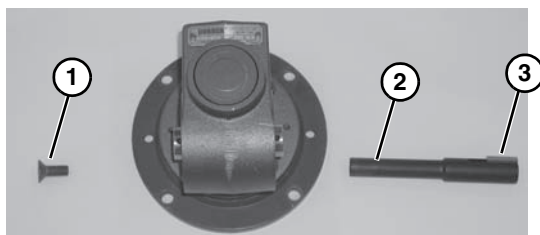

Figure 21
- Remove M10 shaft locking screw (**Figure 21, item 1**), remove gear reducer output shaft (**Figure 21, item 2**) and key (**Figure 21, item 3**).
*Output shaft (**Figure 21, item 2**) is held in Gear Reducer with a tapered press fit. Removal may require use of an arbor press.*
- Insert the new shaft with key (**Figure 21, item 3**) into new gear reducer. Tighten M10 shaft locking screw (**Figure 21, item 1**) to 300 in-lbs (34 N-m).